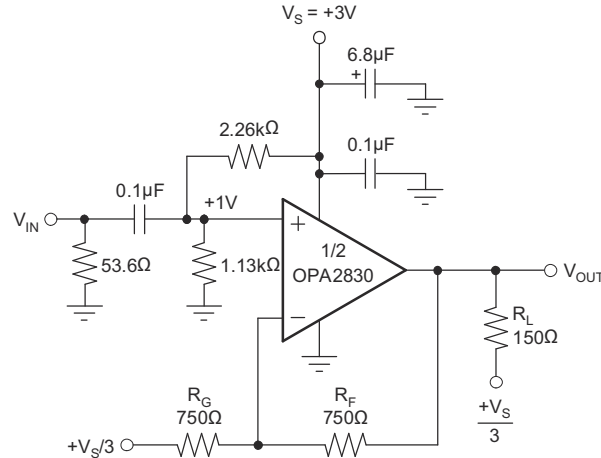
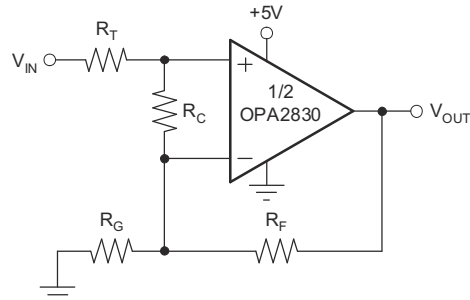

Figure 8-2. AC-Coupled, G = +2, 3V Single-Supply Specification and Test Circuit
Figure 8-8. Compensated Noninverting Amplifier
at $T_A = 25^\circ C$, $G = +2V/V$, and $R_L = 150\Omega$ to $V_S/3$ (unless otherwise noted); see also Figure 8-2
Figure 8-2 shows the ac-coupled, gain of +2 configuration used for the 3V *Specifications* and *Typical Characteristics*. Voltage swings reported in the *Electrical Characteristics* are taken directly at the input and output pins. For the circuit of Figure 8-2, the total effective load on the output at high frequencies is 150Ω || 1500Ω. The 1.13kΩ and 2.26kΩ resistors at the noninverting input provide the common-mode bias voltage. The parallel combination equals the dc resistance at the inverting input (R_F), reducing the dc output offset due to input bias current.
Figure 8-8 shows a noninverting amplifier that reduces peaking at low gains. The resistor R_C compensates the OPA2830 to have higher Noise Gain (NG), which reduces the ac response peaking (typically 4dB at $G = +1$ without R_C) without changing the dc gain. V_{IN} needs to be a low impedance source, such as an op amp.
Frequency response in a gain of +2 can be modified to achieve exceptional flatness simply by increasing the noise gain to 3. One method, without affecting the +2 signal gain, is to add a 2.55k Ω resistor across the two inputs (see Figure 8-8). A similar technique can be used to reduce peaking in unity-gain (voltage follower) applications. For example, by using a 750 Ω feedback resistor along with a 750 Ω resistor across the two op amp inputs, the voltage follower response is similar to the gain of +2 response of Figure 8-2. Further reducing the value of the resistor across the op amp inputs, further dampen the frequency response due to increased noise gain. The OPA2830 exhibits minimal bandwidth reduction going to single-supply (5V) operation as compared with $\pm 5V$. This minimal reduction is because the internal bias control circuitry retains nearly constant quiescent current as the total supply voltage between the supply pins is changed.
The criterion for setting this R_S resistor is a maximum bandwidth, flat frequency response at the load. For a gain of +2, the frequency response at the output pin is already slightly peaked without the capacitive load, requiring relatively high values of R_S to flatten the response at the load. Increasing the noise gain also reduces the peaking (see Figure 8-8).